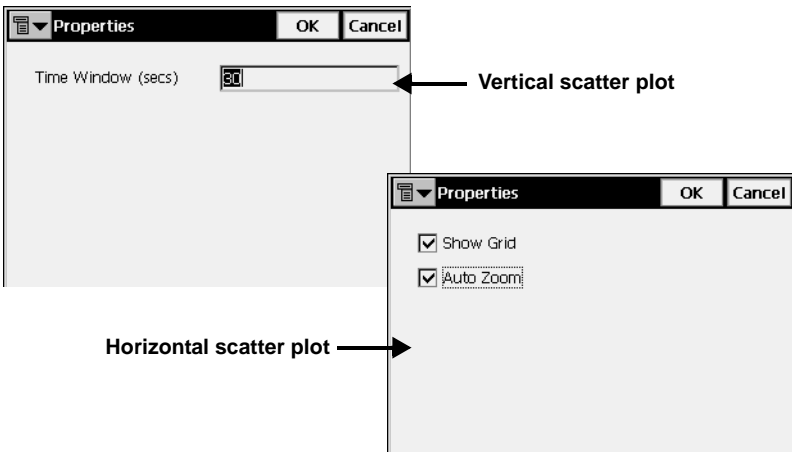

Figure 5-7. Properties (Scatter Plot)
-  : opens the *Properties* screen from which to set graphical features for the scatter plots (Figure 5-7).